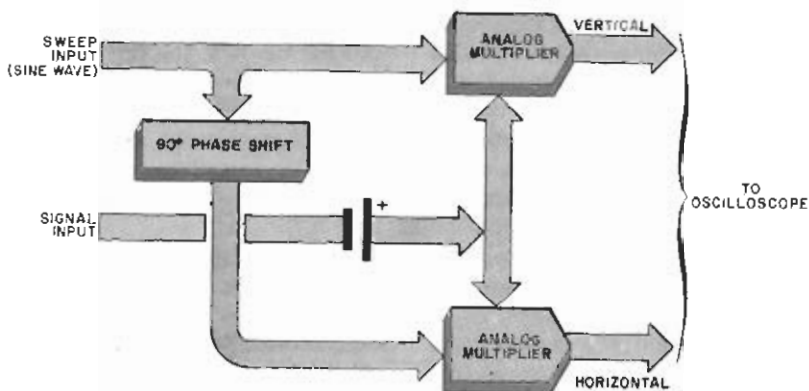

Fig. 1. Block diagram illustrates the basic operation of the circular-sweep converter.
**How It Works.** To move the oscilloscope beam in a circle and form the sweep baseline, two sine waves having a 90° phase difference are applied to the two inputs (horizontal and vertical) of the scope. The signal to be displayed is then combined with these two sine waves so that it deflects the beam in a radial direction. This is done with two analog multiplier IC's, as shown in Fig. 1.